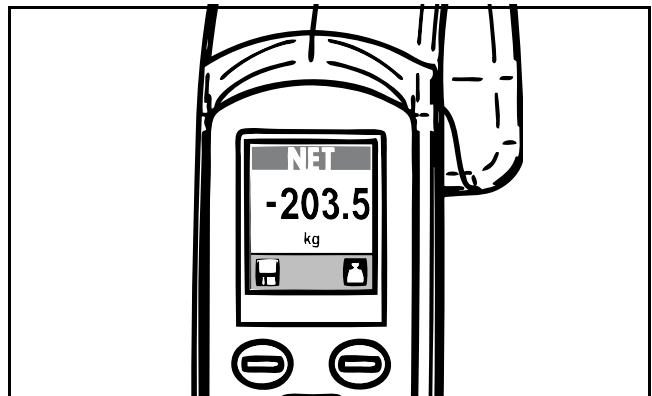

Fig. 67
- 3) Reinstall the sling back on the MAXI MOVE. Ignore the minus sign preceding the digits on the screen. Allow the weight reading to stabilise. The weight shown is the patient's actual weight (see Fig. 67).